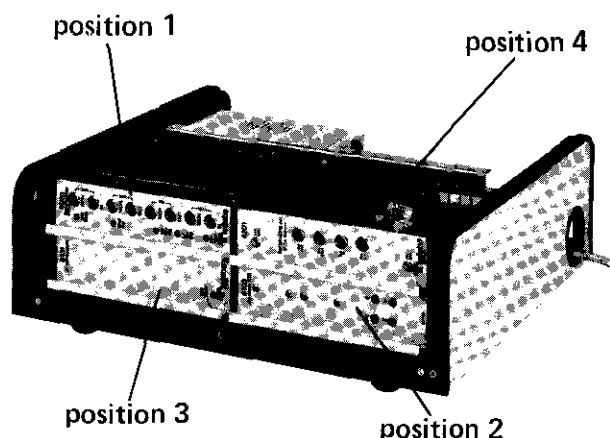

figure 2. 260 System with position numbers
1.06 Specific modes of operation are determined by the module selected for each position. Each position in the assembly accommodates a choice of two or more modules. See figure 2 and table 1.